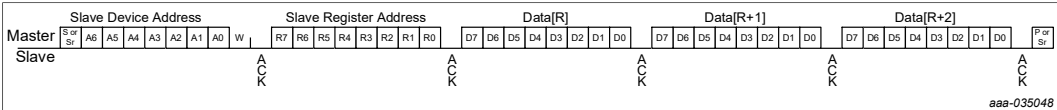

Figure 12. Writing one or more consecutive registers
- Figure 12 provides an illustrative example where the master chooses to write to three consecutive registers starting with register "R".